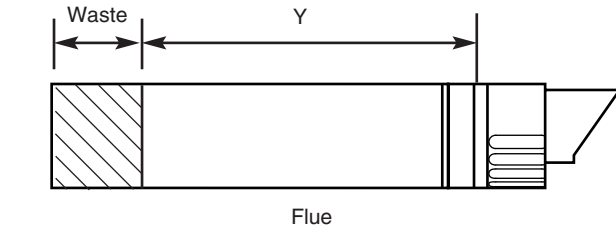

Fig. 26
5. Mark dimension 'Y' on the flue as shown (Fig. 26). Carefully cut the waste material from the flue, ensuring that the ducts are square and free from burrs.